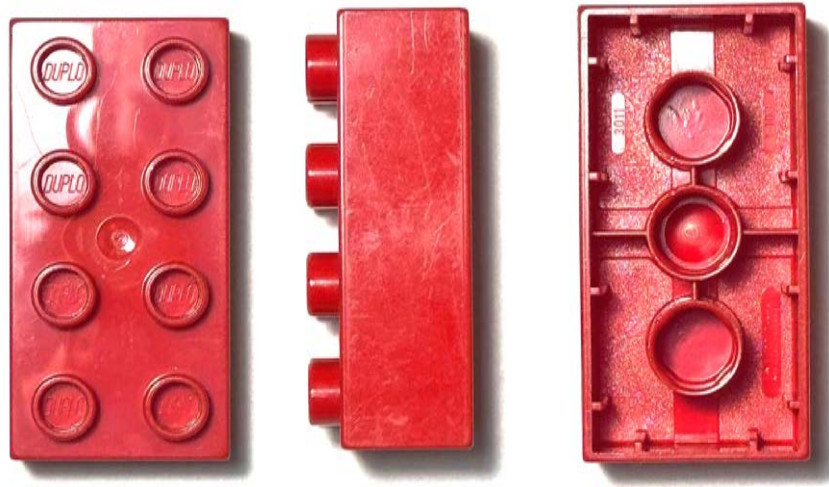

Figure 1 - Photographs of the DUPLO LEGO brick
- a. Specify (and **mark on Fig. 1** where applicable) 3 features that indicate that the part was manufactured by injection molding, instead of thermoforming **(3 points)**